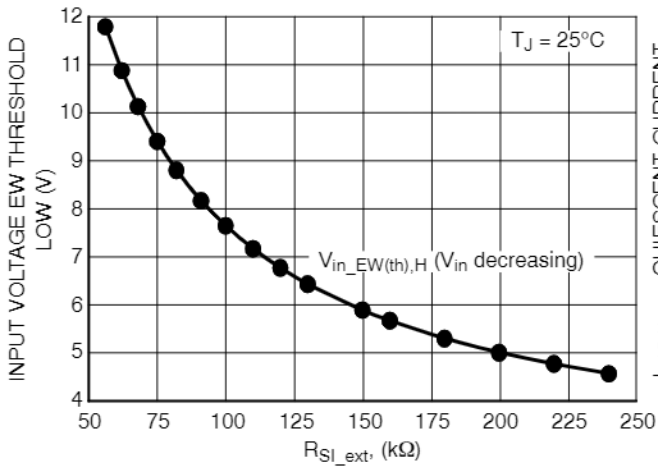
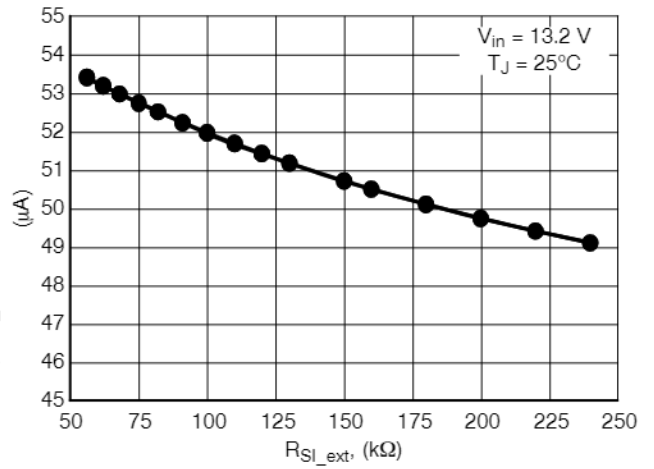

Figure 22. Input Voltage EW Threshold Low vs. RSl\_ext (Calculated Using E24 Series)
Figure 23. Quiescent Current vs. RSl\_ext (Including IRSl\_ext, Calculated Using E24 Series)
13.  $I_q$  for Preset EW Threshold Options is measured when  $R_{SI\_ext}$  is not used. For typical values of  $I_q$  vs  $R_{SI\_ext}$  see Figure 23.
Practically only preset options above 4.5 V can be used without RSI\_ext due to minimum operating input voltage value limitation. For other preset options the trip point has to be adjusted externally using RSI\_ext resistor connected between input monitor SI and GND (see Figure 1). For other preset options RSI\_ext has to be used to achieve Vin\_EW(th) > 5.5 V (minimum operating input voltage value). The value for RSI\_ext is recommended to be selected in range from 50 kΩ to 250 kΩ and the trip point can be shifted according to Figure 22. The higher is RSI\_ext the lower is overall Quiescent Current of the application (see Figure 23). General formulas for calculation of Vin\_EW(th)Low or RSI\_ext for selected preset Early Warning options are described by Equations 1 and 2.